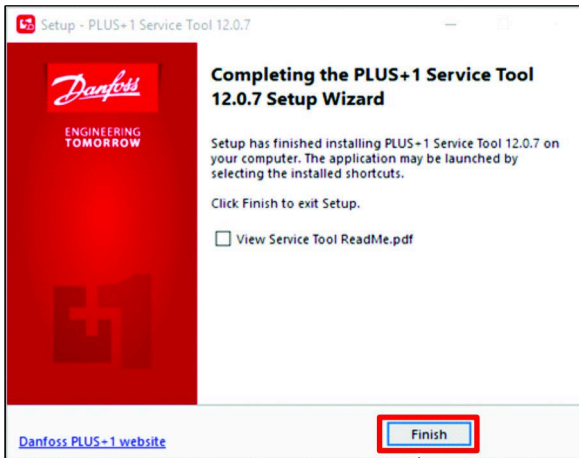

Figure 28
9. In the Completing Service Tool Setup Wizard dialog box, click the FINISHED button (Figure 28).